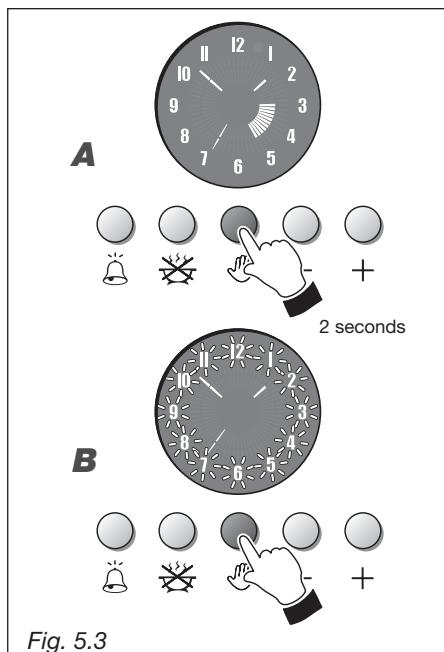

Fig. 5.3
MANUAL COOKING WITHOUT PROGRAMMER (fig. 5.3)
- A. Fig. 5.3 - Programmer with a set program. To cancel the set program press button for about 2 seconds; inner hands disappears on the display and the oven can be used in manual mode.
- B. Fig. 5.3 - Flashing numbers on the display (normally after turning off the buzzer which indicates the end of a programmed cooking). Press button. The numbers stop flashing and the oven can be used in manual mode.